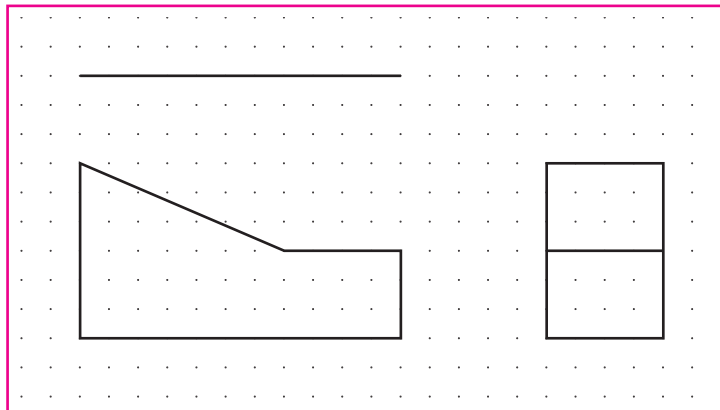

Fig. 12-16
1. Create the front and right-side views of the block shown in Fig. 12-16. Then, using the horizontal line above the front view as a basis, complete the top view of the block.